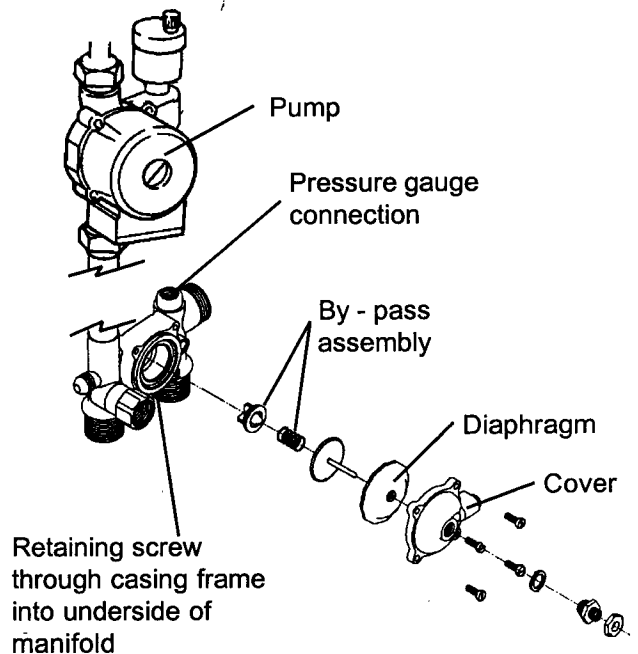

Fig. 33
Part No 3175 Refer to fig. 33
Refer to fig. 33 for location of components.
- 8.18.3 Trace capillary from back of gauge to connecting point on heating manifold (fig. 33).
Part No 4302 Refer to fig. 33